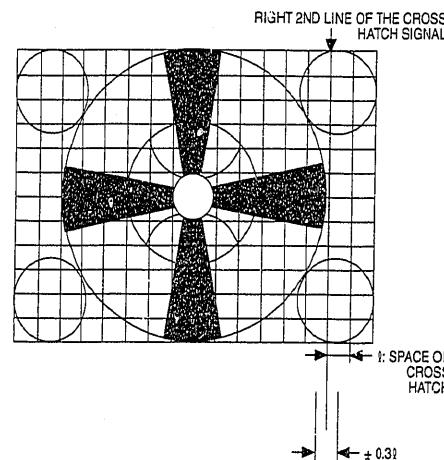

Fig. 1-6-1. On-screen display position specification.
1. Check that the right end of the displayed number is at the position shown in Fig. 1-6-1.